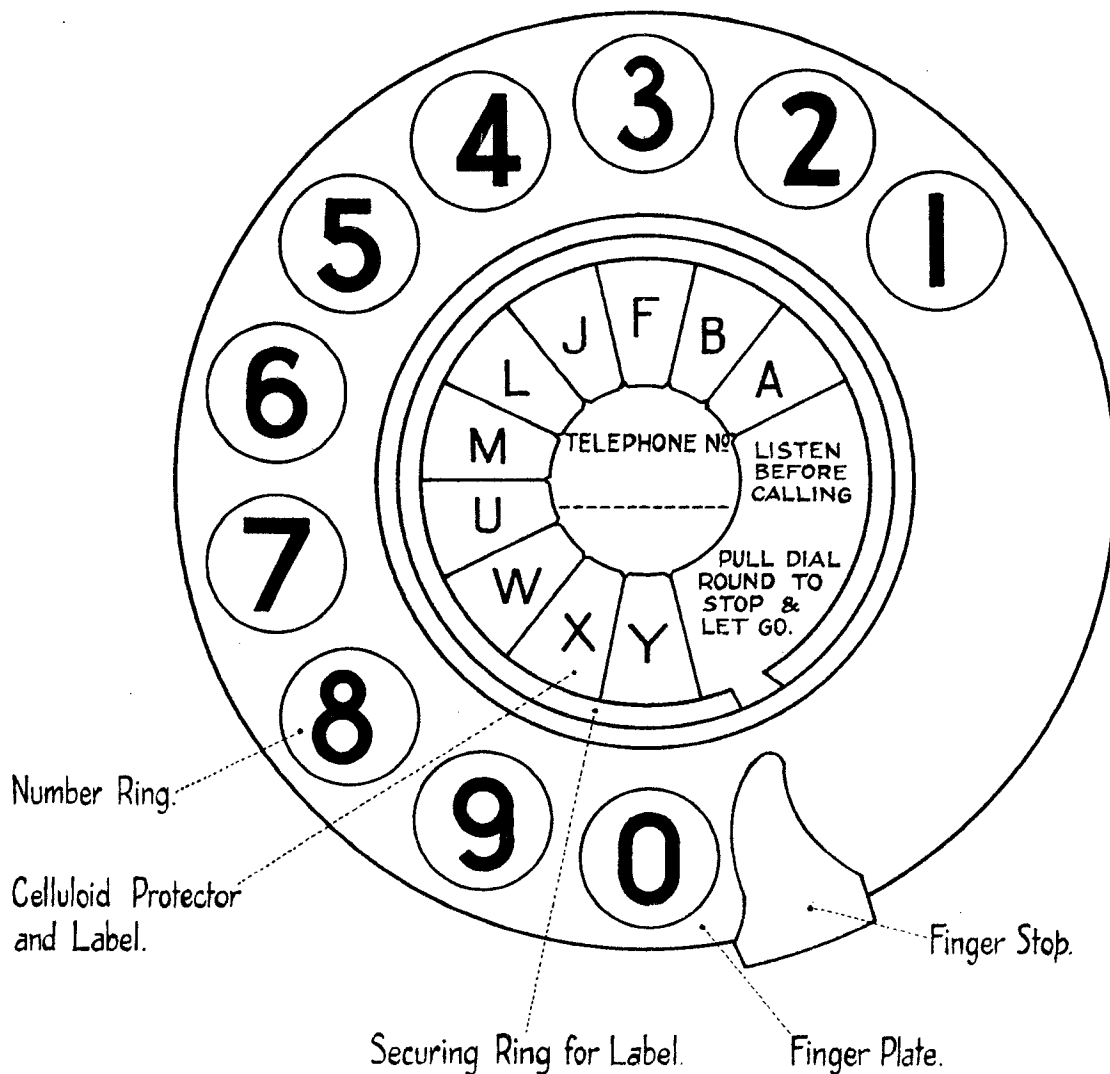

Fig. 1. Front View.
- 1.1 Figures 1, 2 and 3 show the names of the parts.